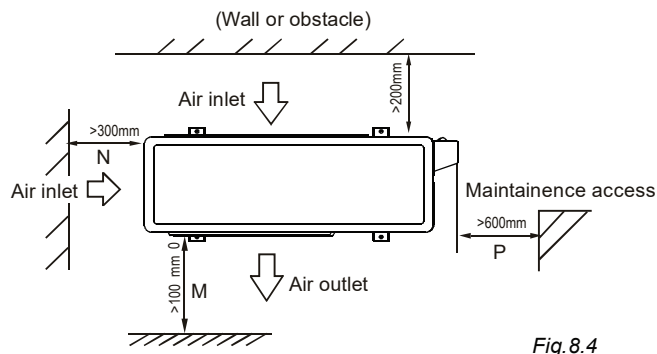

Fig. 8.4
- The minimum distance between the outdoor unit and walls/obstacles described in the installation chart does not correlate directly to installations in enclosed spaces. In these cases at least two of the three sides should remain open (M, N, P). (*Refer to Fig. 8-4*)